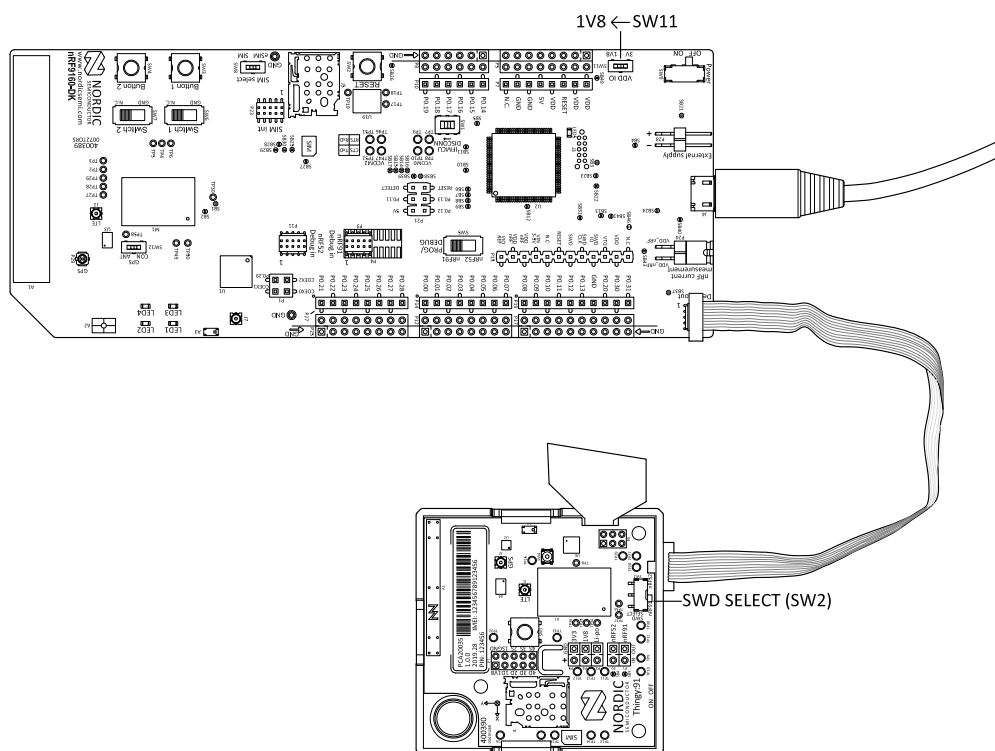

Figure 7: Connecting Nordic Thingy:91 to the external debug probe
- Connect the Nordic Thingy:91 to the debug out port on a 10-pin external debug probe, for example, nRF9160 *DK*, using a 10-pin JTAG cable. Refer Figure 7: Connecting Nordic Thingy:91 to the external debug probe on page 15.
2. Connect the Nordic Thingy:91 to the debug out port on a 10-pin external debug probe, for example, nRF9160 DK. Refer Figure 7: Connecting Nordic Thingy:91 to the external debug probe on page 15.